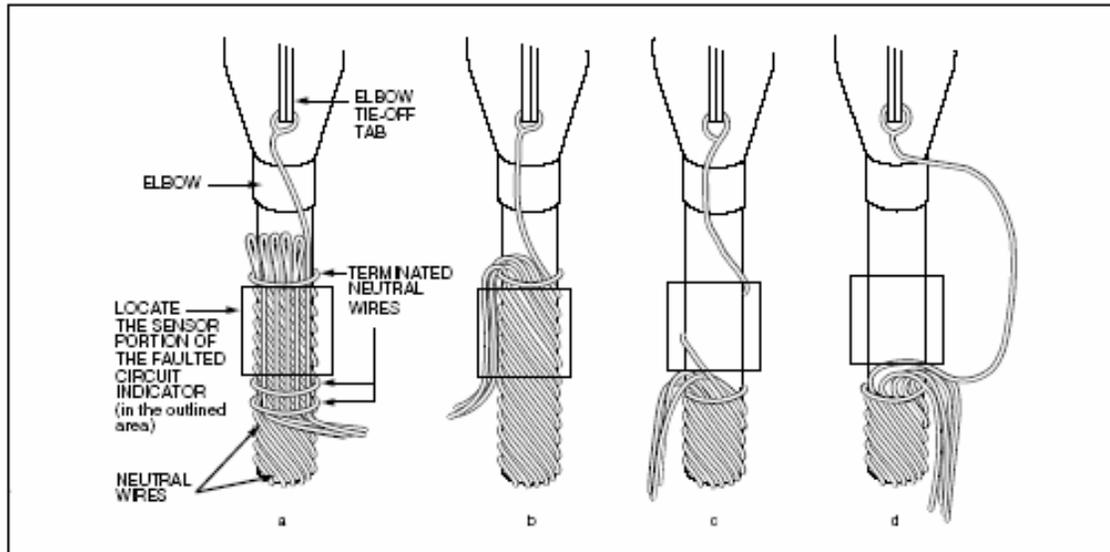

Figure 2.
#### METHOD 1 (REFER TO FIGURE 2-A)
#### METHOD 2 (REFER TO FIGURE 2-B)
#### METHOD 3 (REFER TO FIGURE 2-C)
#### METHOD 4 (REFER TO FIGURE 2-D)
- 4a. Apply a thin layer of silicon lubricant to the inside of the closed core CT. Push the fault indicator onto the cable below the elbow at a location shown in Figure 2 while holding the shotgun stick horizontal. The triggering